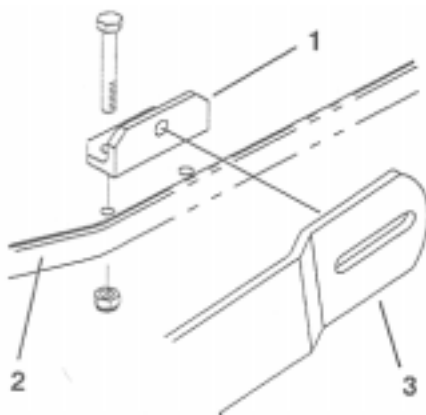

Figure 8
3. Mount the left and right pivot brackets to the floor boards with 4 cap screws (5/16 x 1-1/2 inch) and 4 locknuts (5/16 inch) (Fig. 8).
2. Mount the pivot arm to a pivot bracket on the Sand Pro 2000 or to each side of the floor board on the Sand Pro 5000 with a shoulder bolt, 2 thrust washers, a flat washer, and a locknut as shown in Figs 8 and 9.